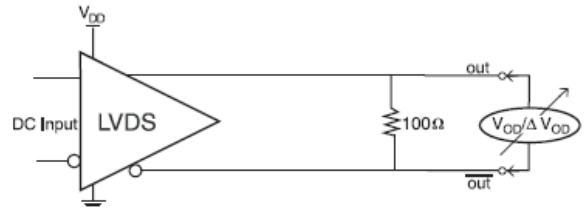

Figure 12. V_{OD} and ΔV_{OD}
6. $V_{OS}\text{ max} + \frac{1}{2} V_{OD}\text{ max}$. Also see Figures 12 and 13.
7. $V_{OS}\text{ min} - \frac{1}{2} V_{OD}\text{ max}$. Also see Figures 12 and 13.